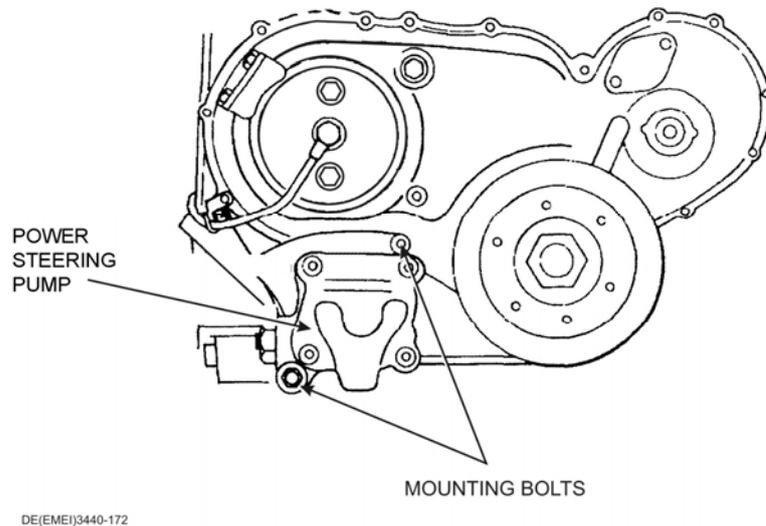

Figure 171 Power Steering Pump Removal
- f.** Remove the bolts securing the power steering pump to the timing gear and remove the pump (Figure 171).